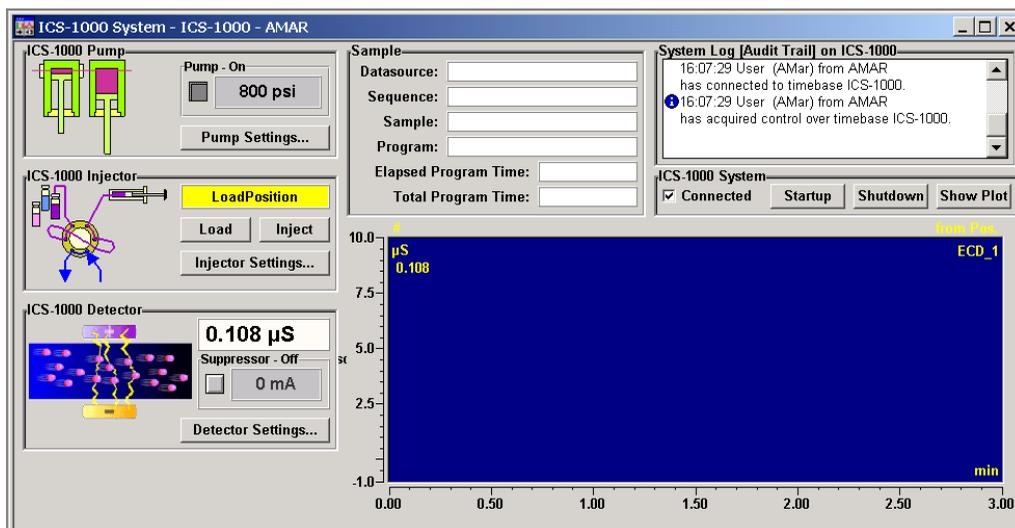

Figure 33. ICS-1000 System Control Panel Example
19. Double-click the .pan file to open the Control panel for your system (see the example in Figure 33).